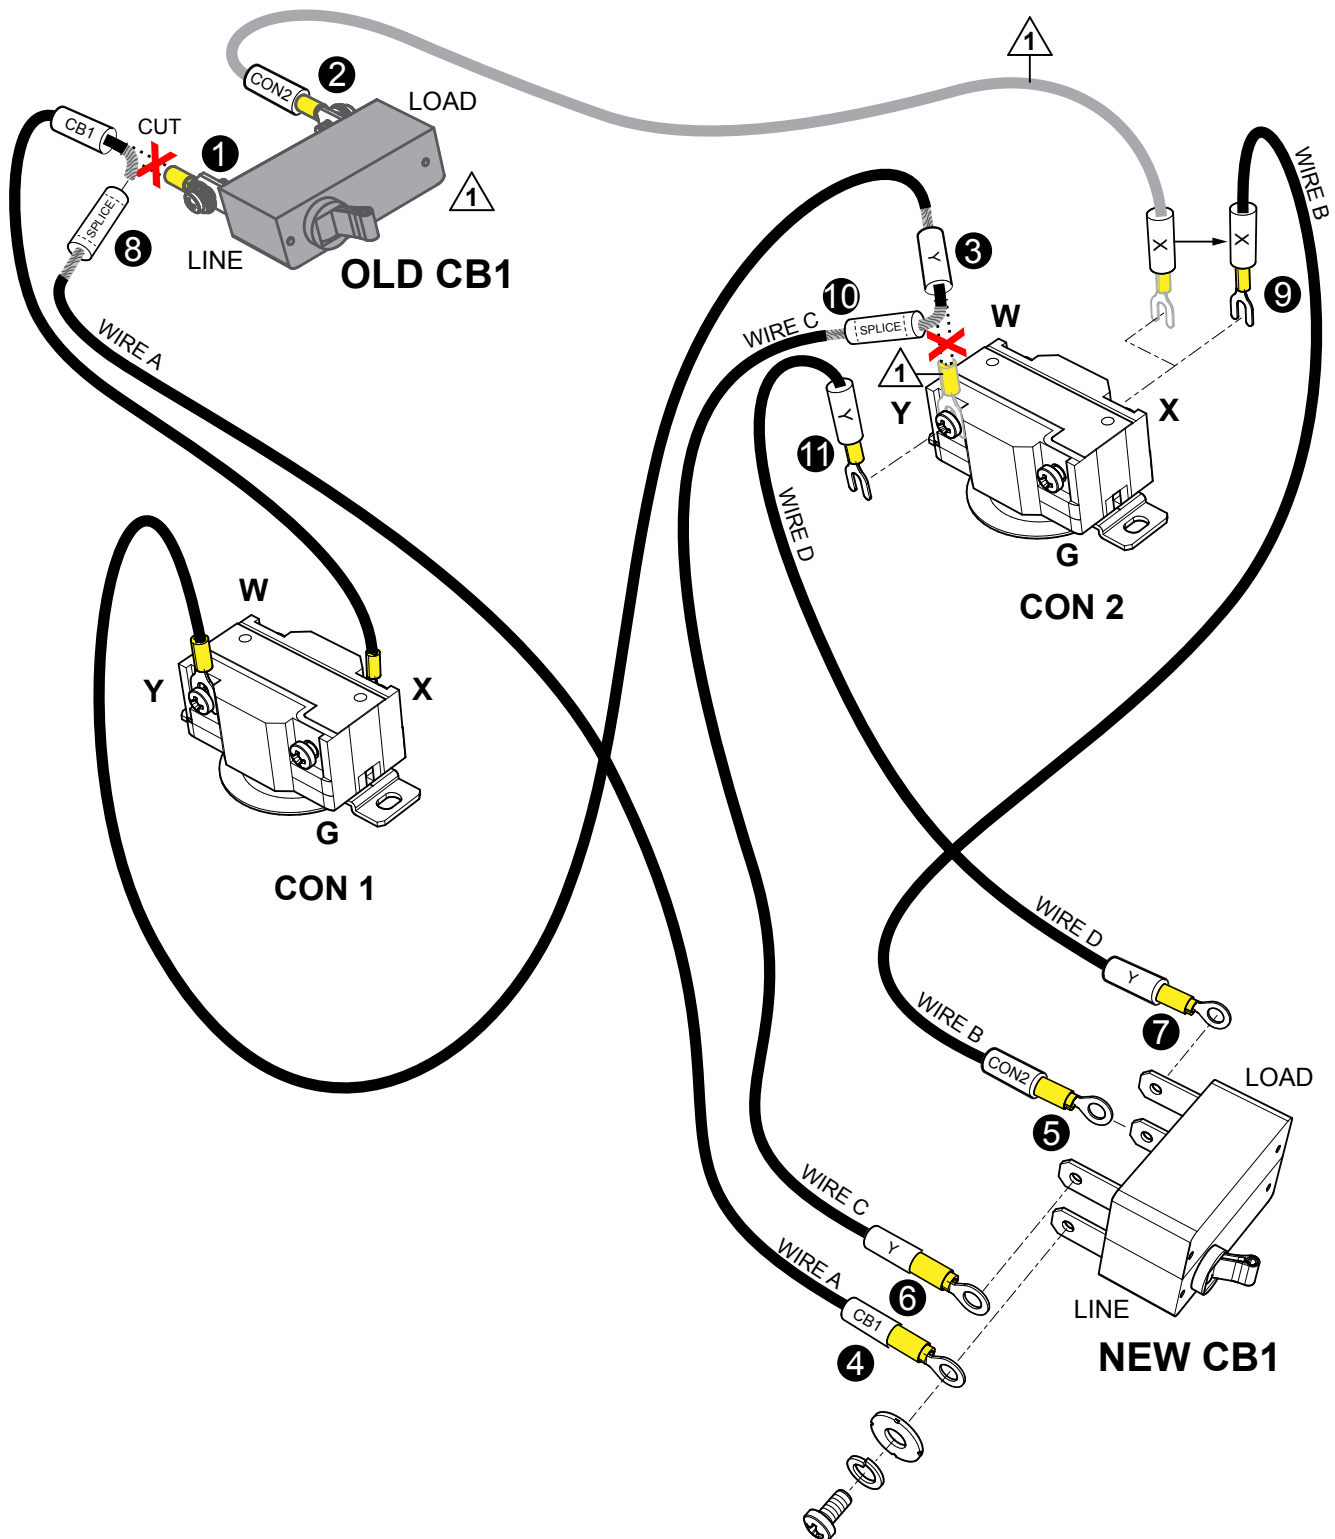

Figure 5. Disconnecting OLD CB1 and Connecting NEW CB1
Refer to Figure 5 for location of connections and Figure 11 for wiring diagram.
1. Locate the wire marked CB1 connected to the circuit breaker CB1 on the generator (Figure 5 ❶). Cut the wire as close to the circuit breaker as possible. Strip the wire about 1/4 inch and install a butt splice on the end of the wire.
3. Locate the wire marked CON2 connecting the circuit breaker CB1 to connector CON2 X (Figure 5 ❷). Remove and discard this wire and circuit breaker CB1.
4. Locate the wire marked Y connected to connector CON2 Y (Figure 5 ❸). Cut the wire as close to the Y connector as possible. Strip wire about 1/4 inch and install a butt splice on the end of this wire. Remove and discard Y connector.